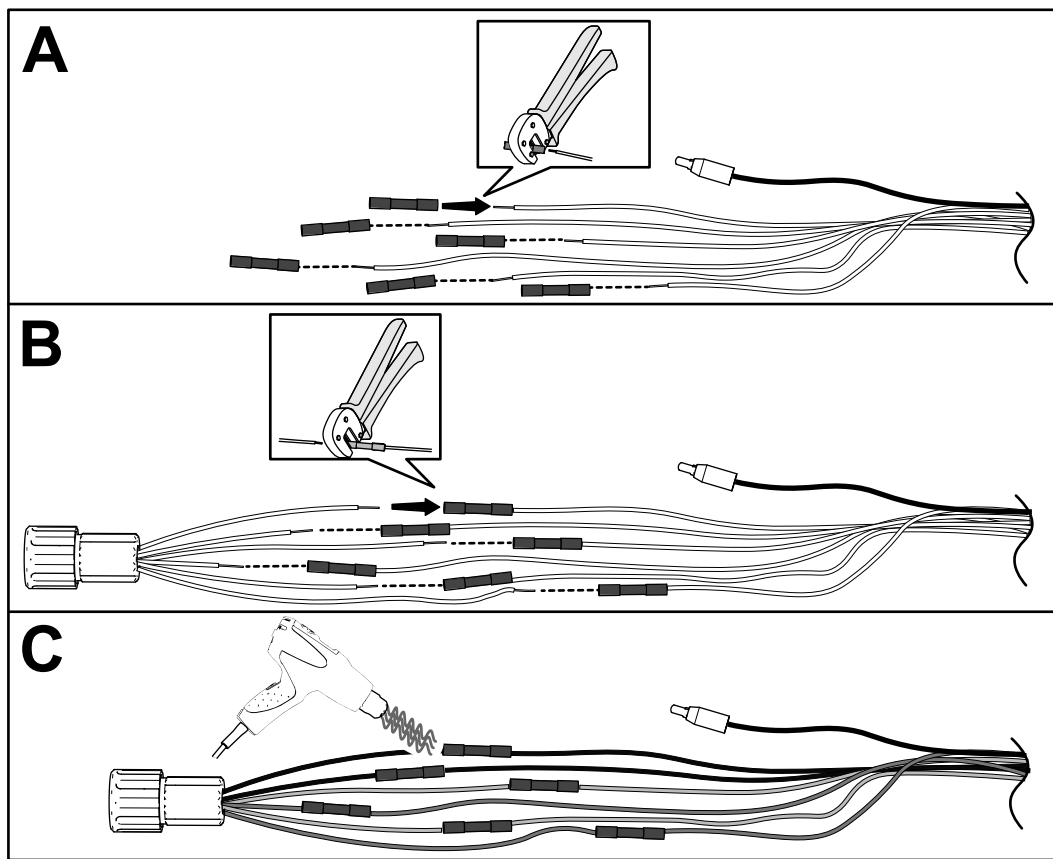

Figure 7
8. On the existing wire harness, install an open-end splice onto the 6 remaining wires end one at a time using a crimping tool that matches position (20-18 AWG); refer to A of Figure 7.
9. Insert each of the motor adapter wires into the corresponding open-end splice, matching the insulation color of the wires, and crimp the connector securely (B of Figure 7).
10. Use an appropriate heat gun to shrink the splice insulation until the adhesive has squeezed out from each end (C of Figure 7).